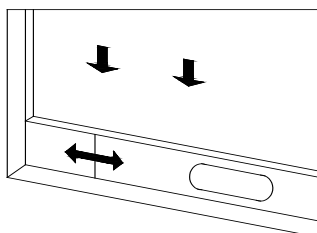
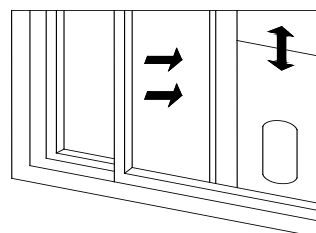

Figure 2
Figure 3
- 1) Half open the window , and mount the window sealing plate assembly to the window (as shown in Fig.2 and Fig.3).Components can be placed in horizontal and vertical direction.